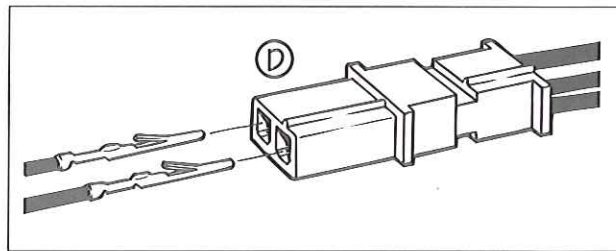

FIG. 7
5. Insert the yellow wire from the harness, Jacobs P/N 017392, into the pin housing on the same side as the yellow wire on the solenoid harness. Insert the blue wire into the other hole so that the blue wires are connected together (D) (see Fig. 7).